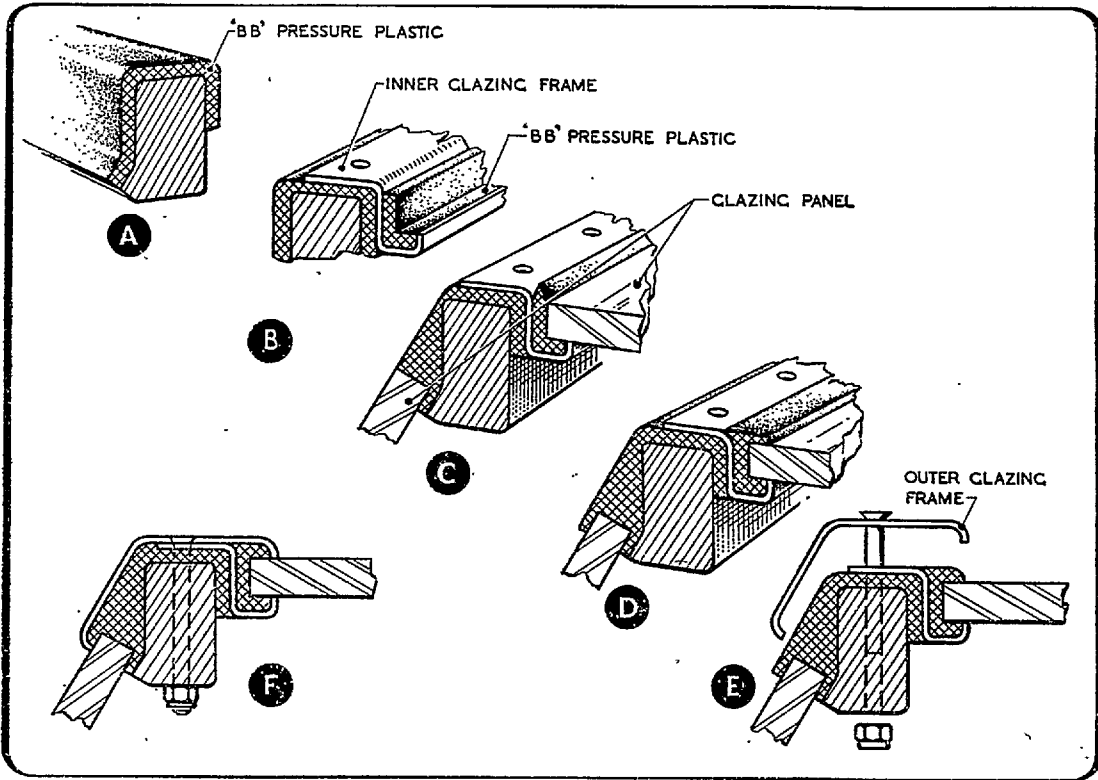

Fig. 1.—Mounting glazing panels in cast frames
16. The plastic may be used for mounting glazing panels on cast frames where no rubber glazing channel is fitted. The plastic should be prepared as described in para. 15 and strips of suitable dimensions pressed on the frame as shown at A, fig. 1. The inner glazing frame, see sketch B, should then be placed in position and bedded well down into the plastic.